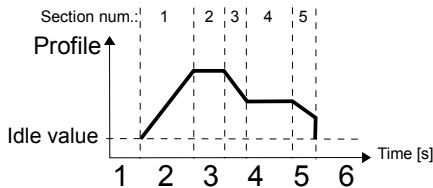

Fig. 7.101. Sample of Profile/timer
- **level (gate)** – this means that configured by user **Profile** is generated when source signal will have a value > 0 , otherwise (if source value ≤ 0) defined Profile will not be generated. See **Fig. 7.101** and example **a**) in **Fig. 7.102**,
- **edge (once)** – this means that configured by user **Profile** will be triggered by the rising edge (from values ≤ 0 to the value > 0) of source signal. After the rising edge the **Profile** will be generated in whole (once), regardless of further changes to the signal source, see **Fig. 7.101** and example **b**) in **Fig. 7.102**,
- **edge (re-triggering)** – this means that configured by user **Profile** will be triggered by the rising edge (from values ≤ 0 to the value > 0) of source signal. However, in this mode, unlike the **edge (once)** mode the defined **Profile** will be generated from the beginning every time when the **Triggering source** signal will generate an edge, whether that Profile had been completed or not. See **Fig. 7.101** and example **c**) in **Fig. 7.102**,
Fig. 7.102. Samples of **Profile** output waveforms defined in Fig. 7.101, triggered by signal selected in **Triggerring source** parameter for **Triggerring mode: level (gate), edge (once), edge (retrig.)**